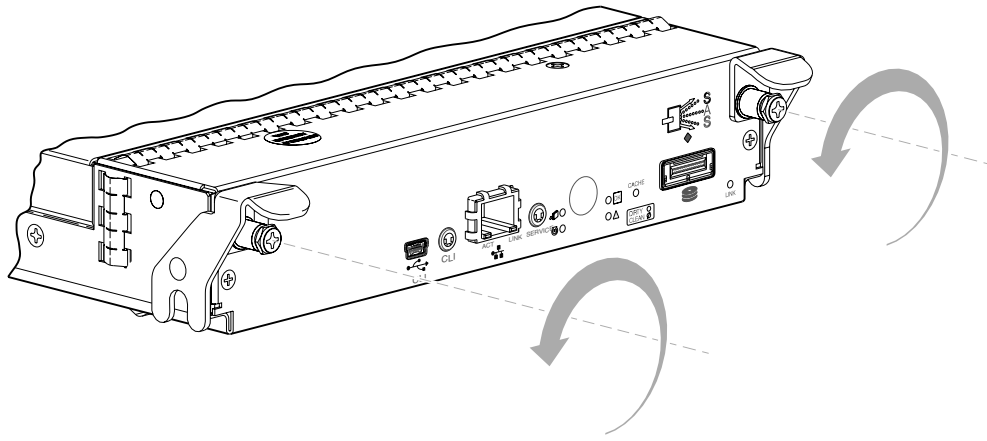

Figure 1 Disengaging a controller module
4. Turn the thumbscrews counterclockwise until they disengage from the controller (see Figure 1).